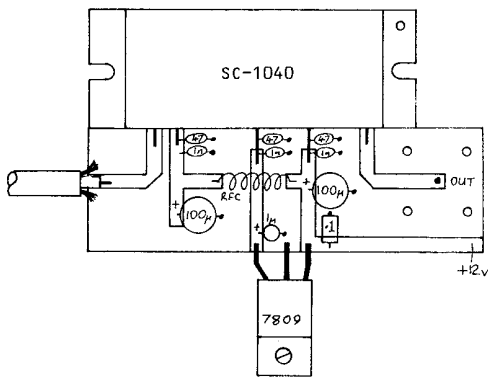

Fig.3 COMPONENT LAYOUT
4. Now position the regulator (fig.3) and fit it to the heatsink using a 4BA screw and nut. Note that if you are using a lower voltage device and wiring a diode in the common lead, the regulator must be insulated from the heatsink by a mica washer. A 6BA screw will then be required together with suitable insulating bushes. Alternatively a 4BA nylon screw and nut can be used.